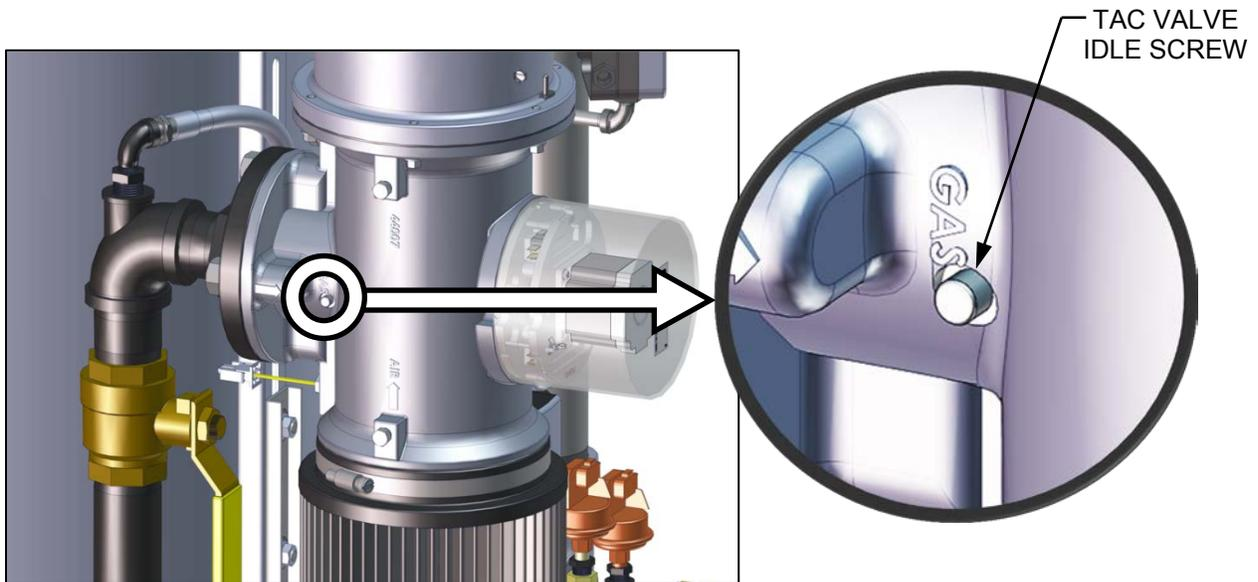

Figure 4-4: TAC Valve Adjust (Idle Screw)
29. If the oxygen level at the 16% valve position is too high and the Blower voltage is at the minimum value, you can adjust the idle screw (TAC valve) which is recessed in the top of the Air/Fuel Valve (see Figure 4-4). Rotate the screw 1/2 turn clockwise (CW) to add fuel and reduce the O₂ to the specified level. Recalibration **MUST** be performed again from 60% down to 16% after making a change to the idle screw (TAC valve).
29. If the oxygen level at the 18% (BMK1500DF) **or** 16% (BMK2000DF) valve position is too high and the Blower voltage is at the minimum value, you can adjust the idle screw (TAC valve) which is recessed in the top of the Air/Fuel Valve (see Figure 4-4). Rotate the screw 1/2 turn clockwise (CW) to add fuel and reduce the O₂ to the specified level. Recalibration **MUST** be performed again from 60% down to 18% (BMK1500DF) **or** 16% (BMK2000DF) after making a change to the idle screw (TAC valve).